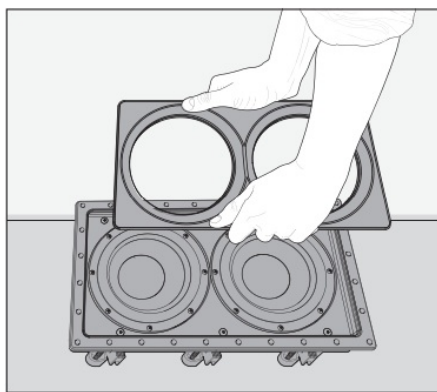

Fig. 4a
- 1) Remove the magnetically attached baffle from the subwoofer assembly (Fig. 4a).